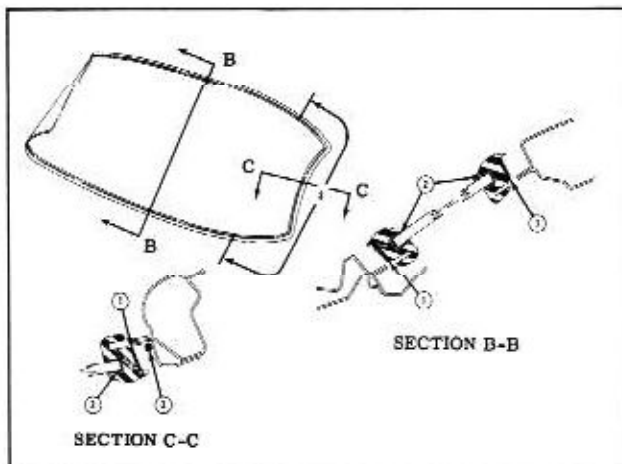

Fig. 15-10 Windshield Sealing
5. Apply a ribbon of medium-bodied sealer completely around base of rubber channel as indicated by "1". (Fig. 15-10)
6. Apply a bead of medium-bodied sealer, approximately 1/4" in diameter to corner of windshield opening rabbet around each side of windshield for distance indicated by "3". (Fig. 15-10)
9. Using a pressure type applicator, seal inner and outer lips of rubber channel to glass as indicated by "2" in Fig. 15-10 with an approved weatherstrip adhesive. Seals are to extend completely around rubber channel.